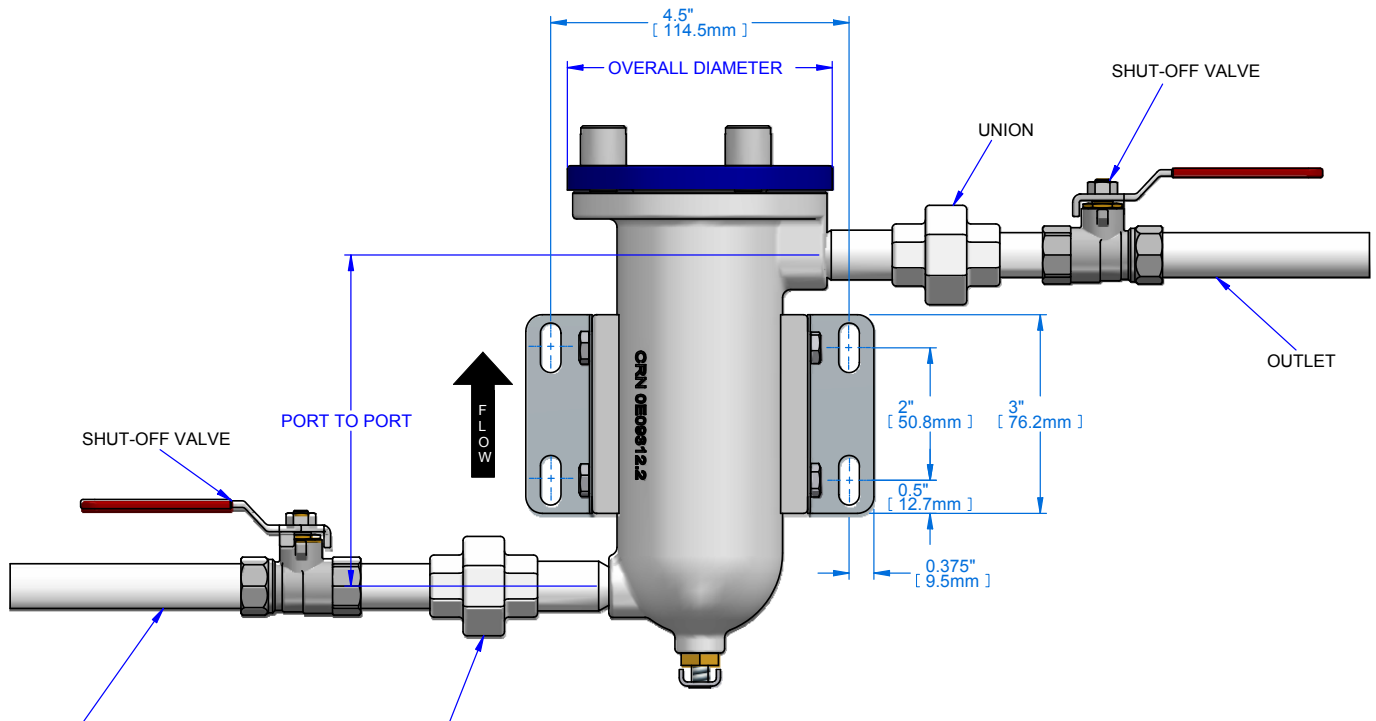

FIGURE 1 - G-10 & M-10 ASSEMBLY DIAGRAM
- 3.1 For maximum efficiency, FLO-DRI unit should be installed as indicated in Figure 1.